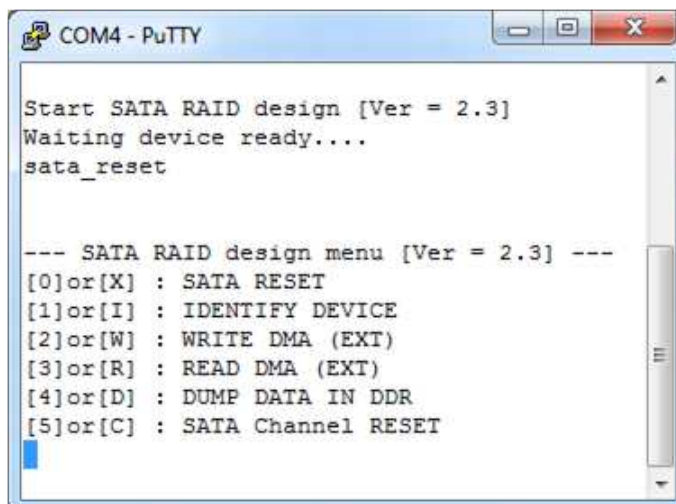

Figure 2-8 Main Menu of host demo
- The serial console on PC will display main menu, as shown in Figure 2-8, if all four SATA devices can initialize successfully. Then, user can execute each command operation following the menu.